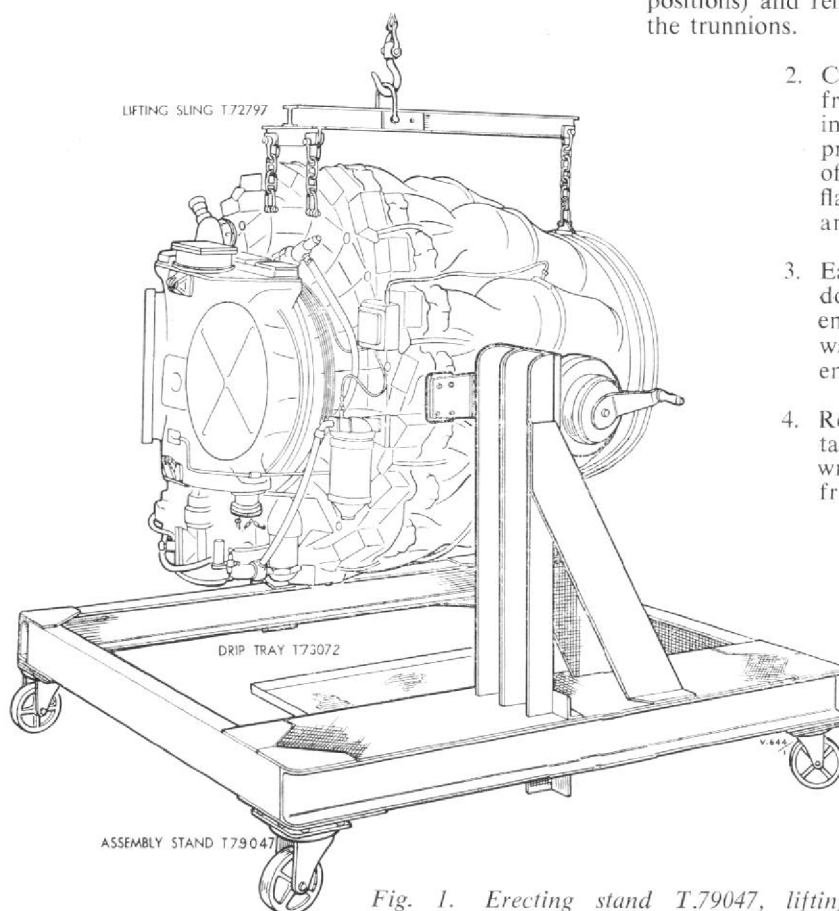

Fig. 1. Erecting stand T.79047, lifting sling T.72797, and drip tray T.73072.
1. Place the arms of erecting stand T.75592 (pre-mod. 665) or T.79047 (mod. 665) in a horizontal position and pointing forwards to maintain the balance of the engine, when on the stand, Fig. 1. Place drip tray T.73072 in position to receive the free oil that will drain as dismantling proceeds.